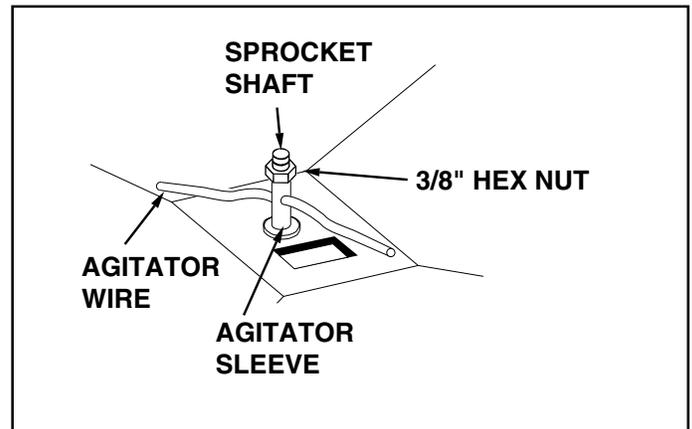

FIGURE 16
2. If the agitator wire becomes damaged or worn it can be replaced. Loosen the 3/8" hex nut on top of sprocket shaft until agitator wire is free. Remove old agitator wire from hole in agitator sleeve and replace with new agitator wire. Position agitator wire so that sprocket shaft turns freely, then tighten 3/8" hex nut on top of sprocket shaft. See figure 16.